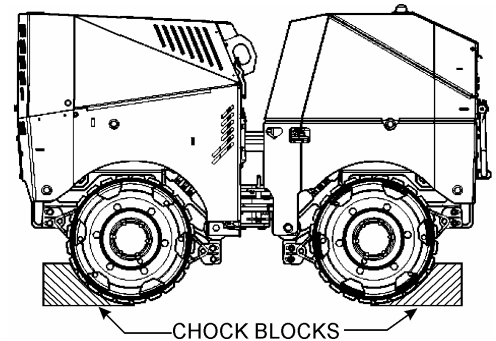

Figure 4. Chock Block Placement
4. Place chock blocks (Figure 4) underneath each drum to prevent rolling.